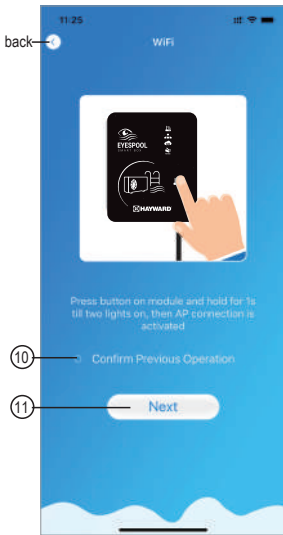
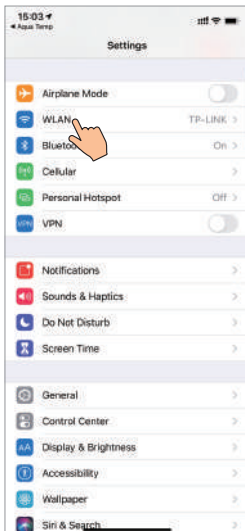
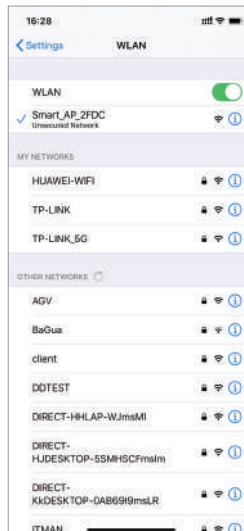

Fig.7 WIFI Module On interface
Fig.10 Setting interface
Fig.11 WIFI setting interface
1. Follow the instructions on the page (Fig.7), press button on module and hold for 1s till two lights on, then AP connection is activated, click ⑩ to confirm, click ⑪ to turn the page;
2. Click ⑫ to enter the WIFI password for the current connection, click ⑬ to confirm;
3. Jump to system settings, connect specified WIFI, click ⑭ to select the "Smart\_AP\_xxx", click ⑮ to popup window(Fig.10), follow the instruction and then jump to WIFI setting interface(Fig.11);